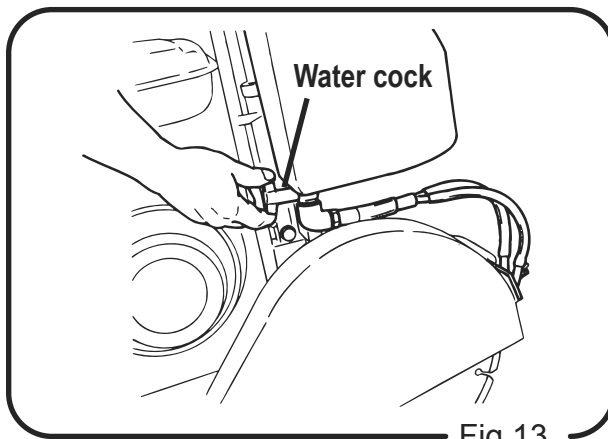

Fig.13
2. Open water cock of water tank to spray water to the blade. (Fig.13)